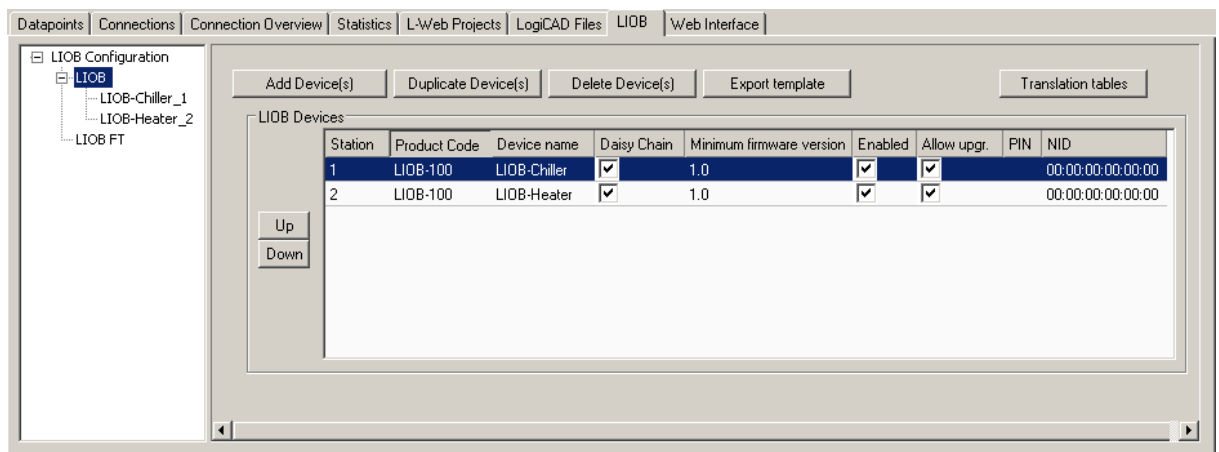

Figure 18: Add L-IOB devices to the LIOB Connect bus.
- Add L-IOB devices on the **LIOB** tab from the supplied L-IOB templates using the **Add Device(s)** button as shown in Figure 18.